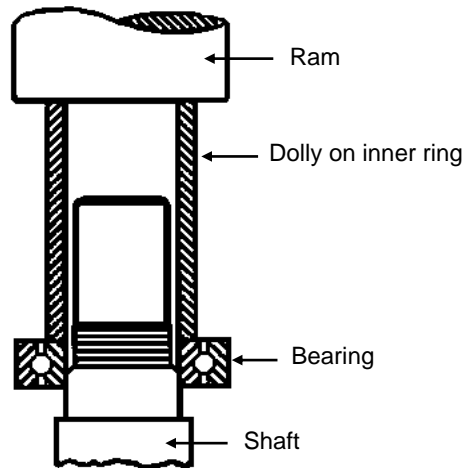
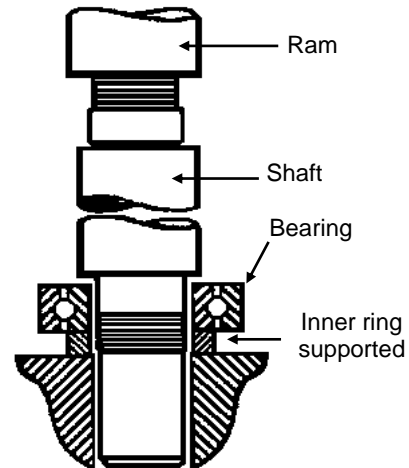

FIG 6.
FIG 7.
A. A bearing can be fitted onto a shaft by either pressing it onto the shaft (Fig 6), or by pressing the shaft onto the bearing. (Fig 7)
- A. Follow the same procedure as described for the previous method, but only support the bearing on the press bed with two supports as shown in Fig 7.